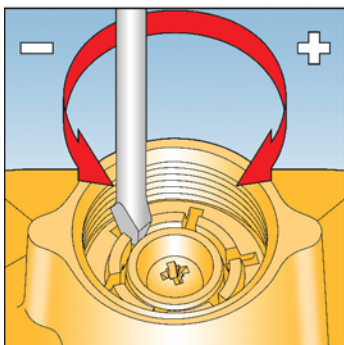

Fig. 11
40. Fully unscrew and remove top spring holder. See Fig. 11.
42. Screw spring holder back in place, ensuring that castellated spigot is uppermost in chimney. See Fig. 11.
54. Screw top spring holder back in place, ensuring that castellated spigot is uppermost in chimney. See Fig. 11. (If UPSS only ensure that spacer tube is firmly clamped)